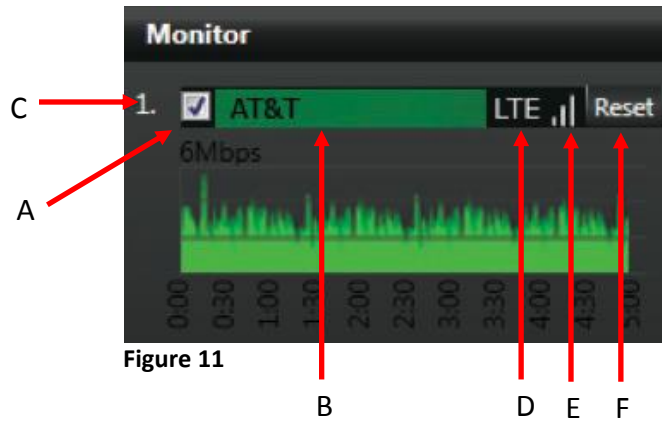

Figure 11
M	Datacard monitor panel: This monitor panel displays the current status of each data card. See Figure 11
P	Reset: Provides a full power reset for a particular modem. Use this feature when the modem is no longer able to connect or is having problems. See F on Figure 11
The check boxes associated with each card's status bar enable or disable a particular datacard (A) (Figure 11). If unchecked, it will not be used to pass data. If checked on (default), it will be used. Individual read out panels show the carrier name (when available) of each active card (B). The slot number of each datacard is indicated in front of the carrier name (C). To retrieve the IP Address of a particular datacard, mouse over the name of that datacard. If no name is automatically provided and is displayed as <name>, you can input your own name. However, this will reset upon reboot. The color indicators displayed within the carrier name panel indicate the following status:
The connection mode (D) is next to the connection strength, which is indicated with three status bars (E)(Figure 11). If the bars are all gray, there is no connection. Three green bars indicate excellent connection strength.